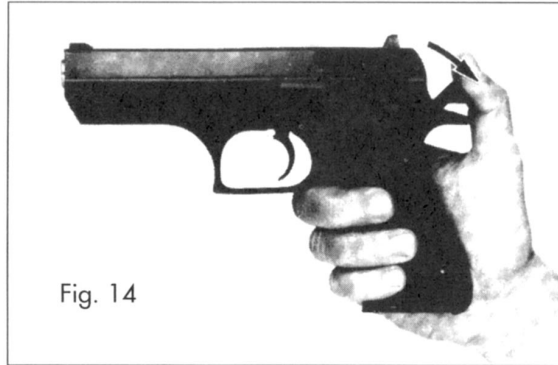

Fig. 14
1. With the pistol completely unloaded, and safety in the "FIRE" position, manually move the hammer to the cocked position (Fig 14).